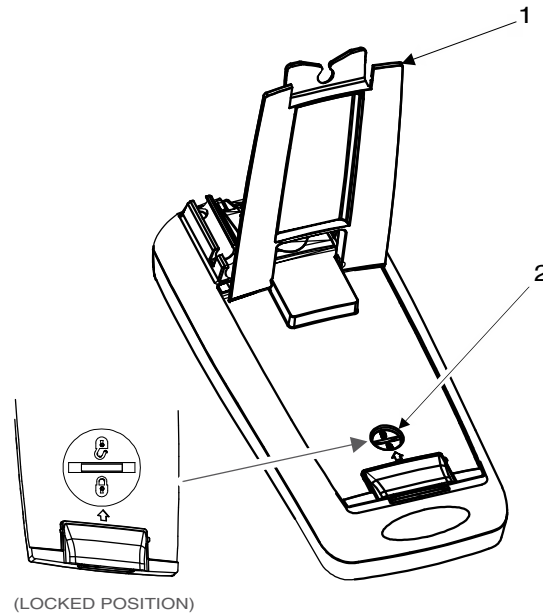

Figure 3. Multimeter Locking Device Location
4. Raise multimeter stand (Figure 3., Item 1) and turn multimeter rear cover locking device (Figure 3., Item 2) clockwise until the "lock" symbol on the locking device aligns with the arrow on the rear multimeter cover. This will "lock" the multimeter rear cover. Lower multimeter stand (Figure 3., Item 1).